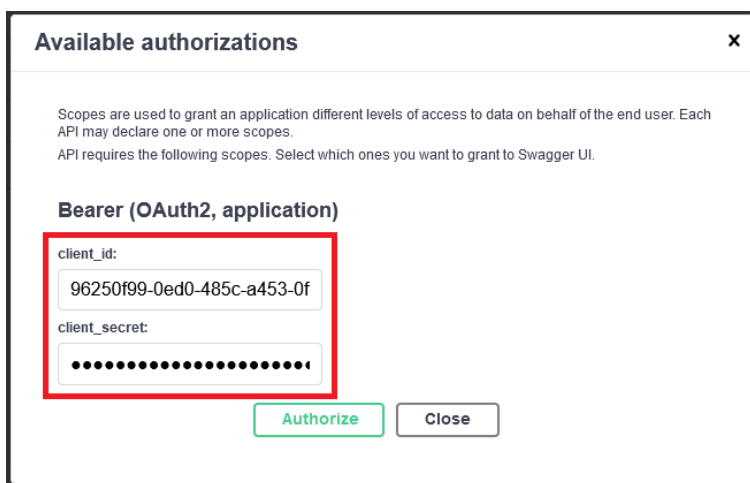

Figure 2 Entering credentials using Swagger
2. Entering Client Id and Client Secret as shown in Figure 2 Entering credentials using Swagger